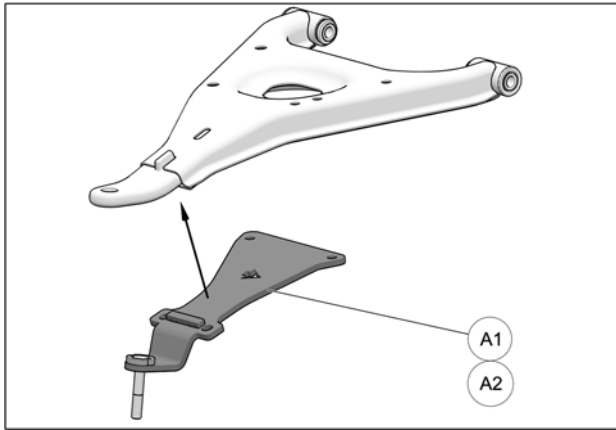

Fig. 17
10. Position bottom part of anchor bracket (A1-A2) assembly under front lower suspension arm, as shown in the figure below. See Fig. 17